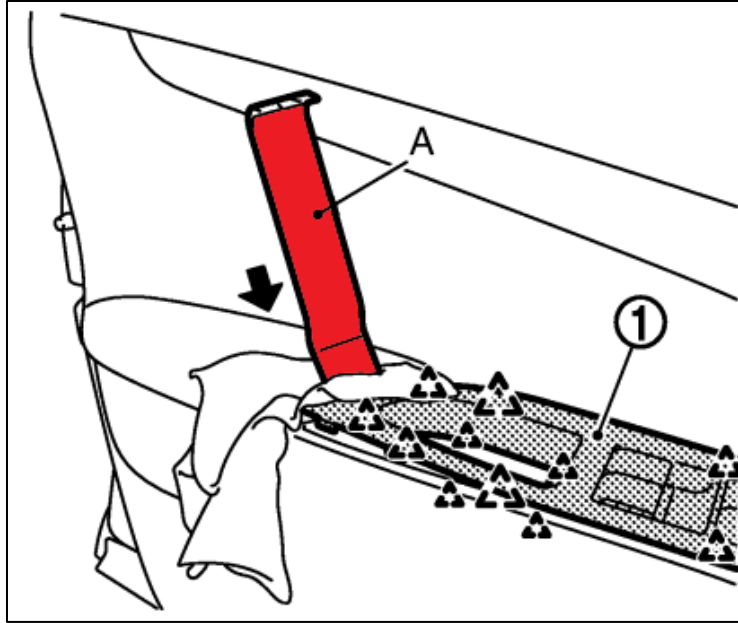

Figure 67
4. Remove the Door Control Panel with a Trim Removal Tool. *Figure 67.*